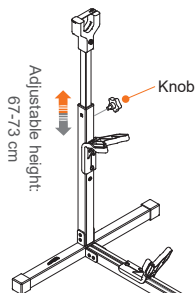

fig. 9
- Insert stanchion extender into stanchion—the safety latch must face and open rearward (fig. 9).
- Screw in height adjustment knob to complete assembly (fig. 9, 10).